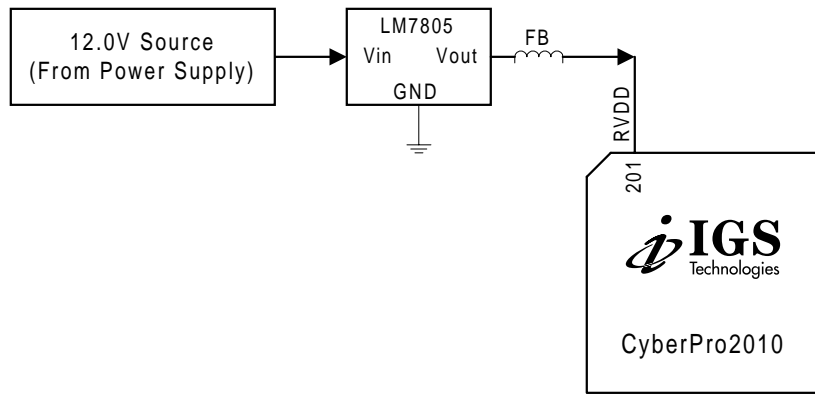

Figure 3-1: Preferred RVDD Voltage Source
1. The preferred method is to use a 12.0V source coupled with a 7805 voltage regulator for a 5.0V output as shown in Figure 3-1.
The circuit for the preferred RAMDAC VDD source input is shown in Figure 3-1.